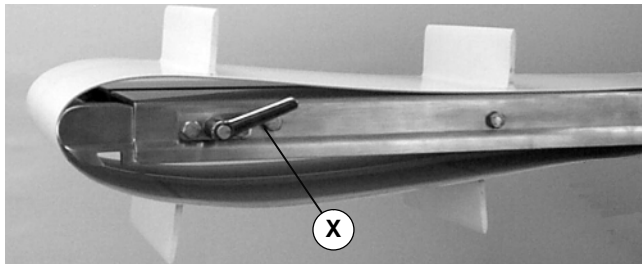

Figure 27
**NOTE:** Do not exceed a torque on the tension handle (X of Figure 27) of 2.8 Nm for 44 mm to 305 mm wide conveyors and 4.5 Nm for an 457 mm wide conveyor. Over-tensioning conveyor belt will cause excessive pulley bearing load and early failure.
With V-guide seated in pulley, rotate tension handle (X of Figure 27) counter-clockwise to sufficiently tension the belt to convey the load.
With V-guide seated in pulley, rotate tension handle (X of Figure 27) counter-clockwise to a distance of 25 mm (AF of Figure 28).